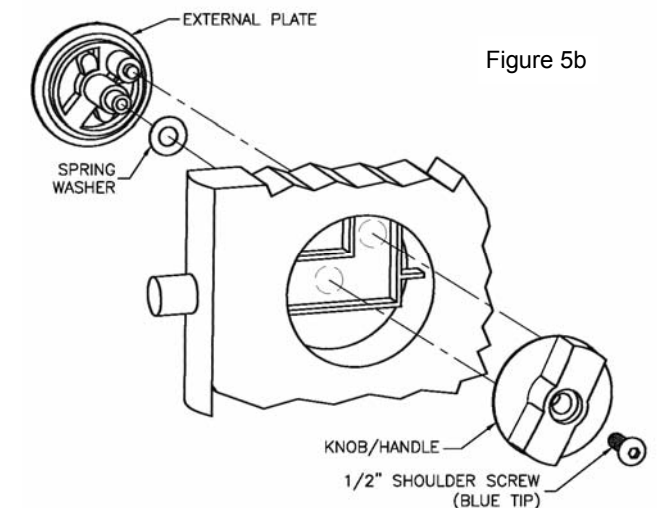

Figure 5b
- Mount external plate and knob. Remove clear plastic retainer holding spring washer in place on the post of the external plate. Insert the external plate into door as shown in Figure 5b, with the shorter post inserted into the upper pocket of the internal latch mechanism. Mount the knob/handle on the inside of the door and engage it with both the center post and the shorter, off-center post of the external plate. Insert 1/2" shoulder screw with blue tip through the knob/handle and tighten until snug. Check for proper operation of knob and latch pin before final tightening.
- Locate strike/keeper on the latch-side pilaster so the latch pin engages with it when the door is closed. Drill (1/4" bit) mounting holes and secure strike/keeper to pilaster using thru bolt (1), with black rubber bumper facing out for outswing doors and in for inswing doors.